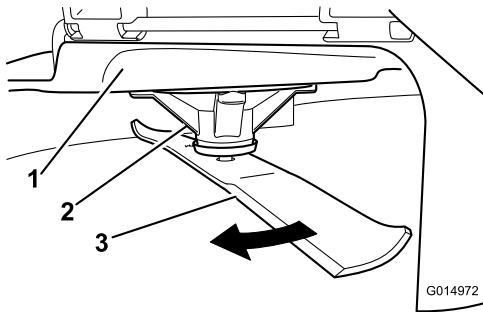

Figure 95
2. While wearing thickly padded gloves, or other adequate hand protection, slowly rotate the blade into a position that allows you to measure the distance between the cutting edge and the level surface the machine is on (Figure 95).